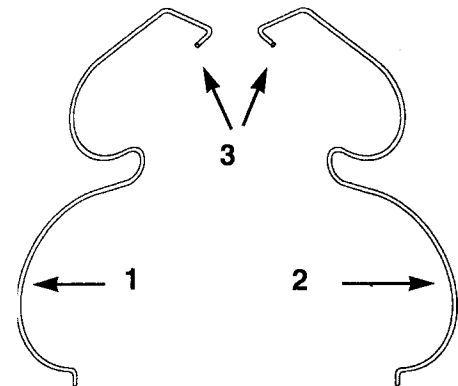

Figure 60
- A. Identify the left and right hold-down springs (Fig. 60).